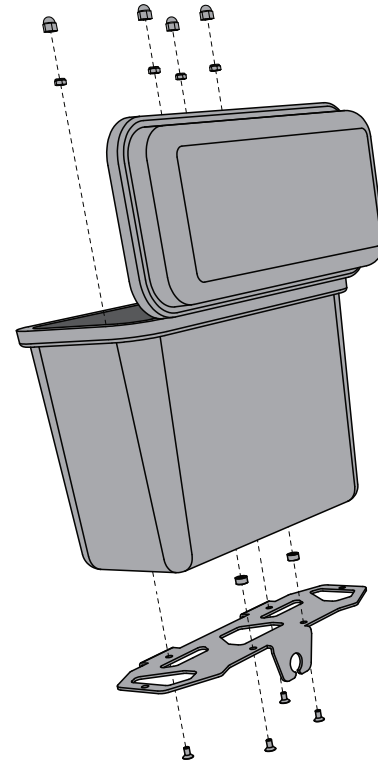

Figure 11. Install Quick Release Mount to Case
2. Install a Quick Release Mount to each Waterproof Case using four 20 mm fasteners, two spacers (between the mount and case), and four Nyloc nuts, as shown in **Figure 11**. Torque the fasteners to **11.0 N-m (8.1 ft-lbf)**.